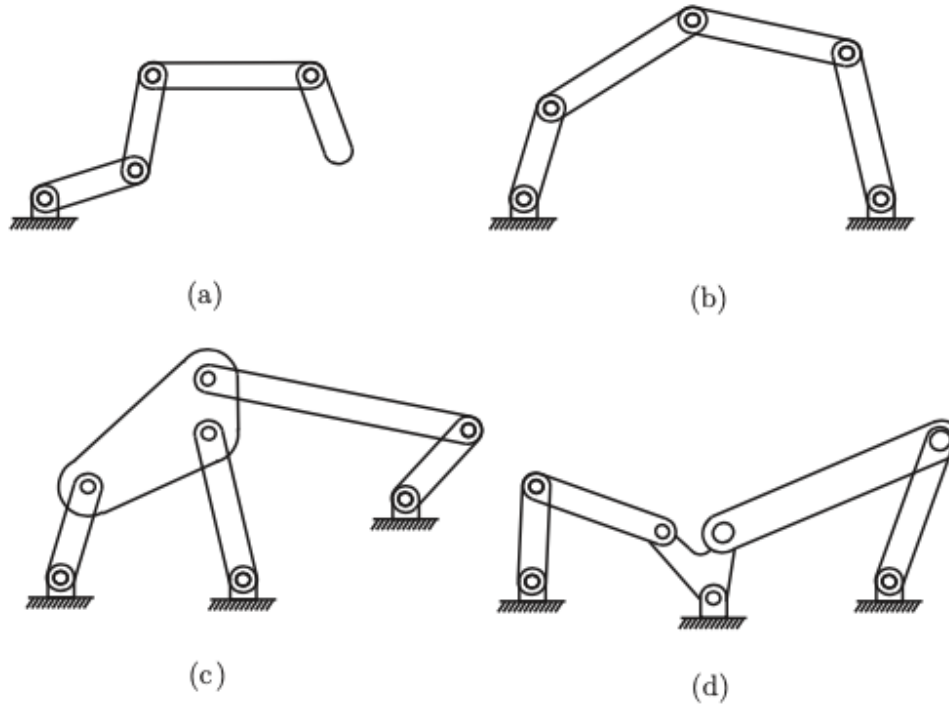

Figure 2.5: (a) k -link planar serial chain. (b) Five-bar planar linkage. (c) Stephenson six-bar linkage. (d) Watt six-bar linkage.
- The k -link planar serial chain of revolute joints in Figure 2.5(a) (called a kR robot for its k revolute joints) has $N = k + 1$ links (k links plus ground), and $J = k$ joints, and, since all the joints are R, $f_i = 1$ for all i .
- For the planar five-bar linkage of Figure 2.5(b), $N = 5$ (four links plus ground), $J = 5$, and since all joints are R, each $f_i = 1$.
- For the Stephenson six-bar linkage of Figure 2.5(c), we have $N = 6$, $J = 7$, and $f_i = 1$ for all i , so that
- For the Watt six-bar linkage of Figure 2.5(d), we have $N = 6$, $J = 7$, and $f_i = 1$ for all i ,